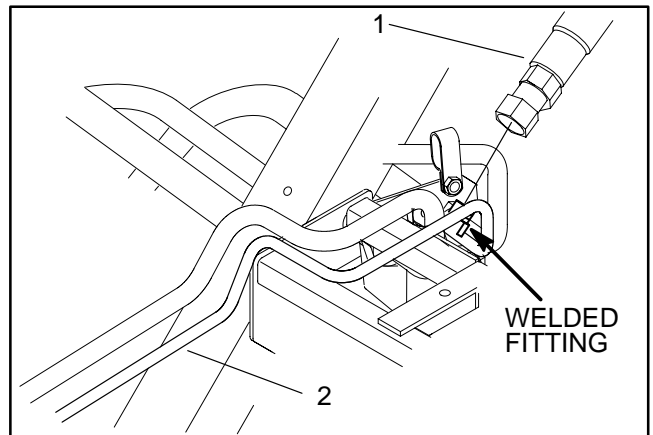

Figure 21
- C. Disconnect hydraulic hose from welded fitting on the tube leading into rear bulkhead (Fig. 21).